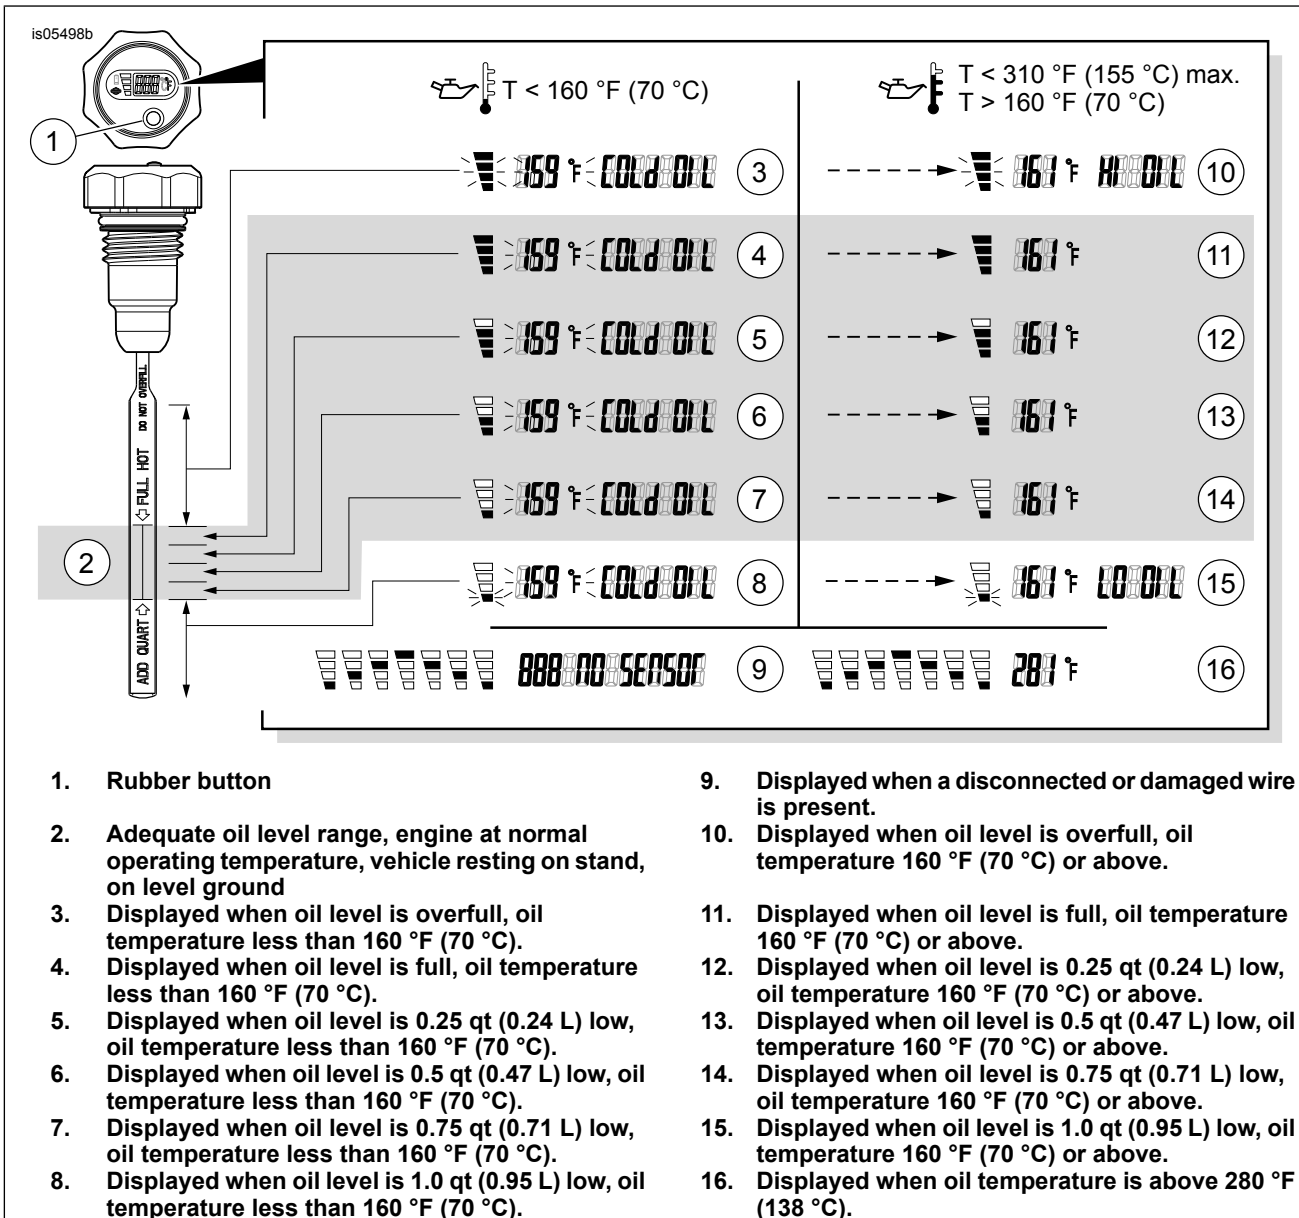

Figure 1. LCD Oil Temperature/Level Dipstick
See Figure 1. Press and release the rubber button on the front face to display:
- Proper oil level would be as indicated in Figure 1, display 4-8 (bars showing oil level and flashing oil temperature, followed by "COLD OIL" message when engine is cold). DO NOT ADD OIL to bring level to the FULL mark on the dipstick of a COLD engine.
- Press and release the rubber button on the front face of the LCD oil temperature/level dipstick to display temperature and oil level in the oil tank. Proper oil level would be as indicated in Figure 1, display 11-14.
An "888 NO SENSOR" error code and animated level bars ( Figure 1, display 9) indicates a disconnected or damaged wire.
To help prevent failure of the electronics inside, the dipstick does not measure oil level when the oil temperature exceeds 138 °C (280 °F). Animated level bars display, along with the temperature ( Figure 1, display 16), up to a maximum reading of 155 °C (310 °F).